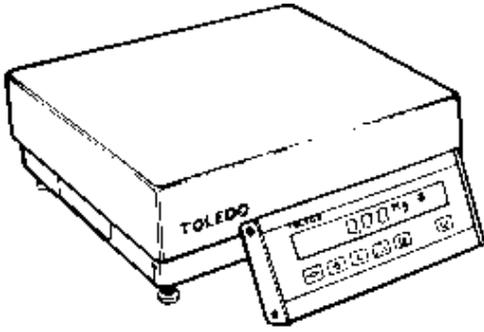

Figure 5a
- 4). Figure 5a and 5b illustrate an alternative method of mounting the display to the base for applications with height restrictions, or where the product being weighed obscures the display, or may touch the column.